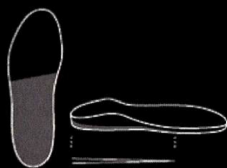
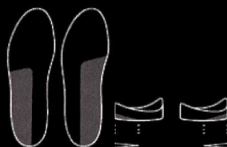

Fig. 1: Heel raise up
Fig. 2: Inner/outer edge elevation
- After the material has cooled, the construction material can be ground on the grinding machine into a heel wedge (Fig. 1) or an inner or outer edge elevation (Fig. 2). The material should taper off to 0 mm at the front at the metatarsal head (Fig. 2).